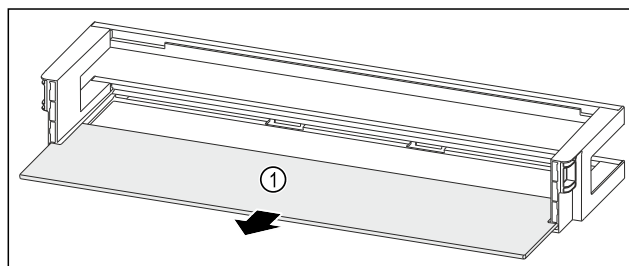

Fig. 145 Door rack with shelf
- Remove the shelf Fig. 145 (1).